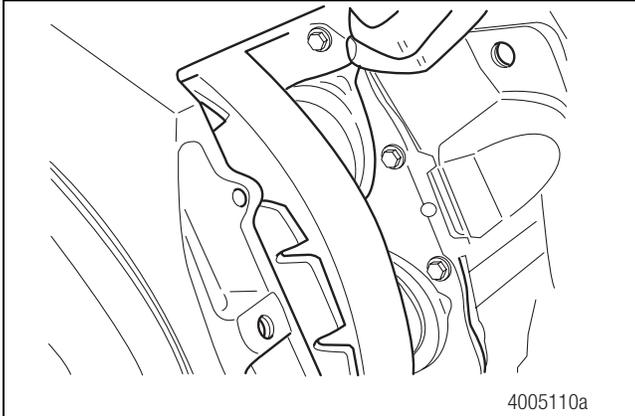

Figure 5.15
- Use a 10 mm wrench to rotate the manual adjuster stem COUNTERCLOCKWISE and deadadjust the piston assemblies. With the brake fully deadadjusted, it may be necessary to lift the piston boot tab and release air that may be inflating the boot. Figure 5.15.